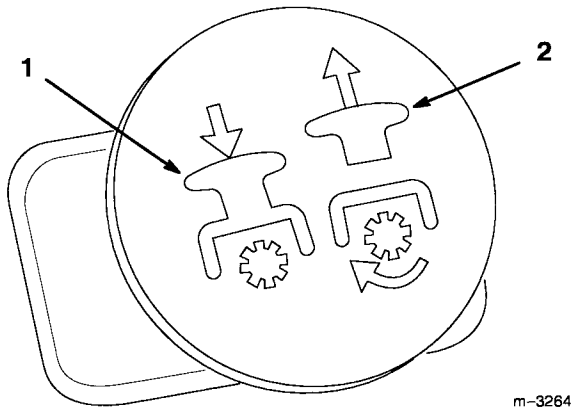

Figure 13
3. Pull the power take off (PTO) switch to ON (Fig. 13).